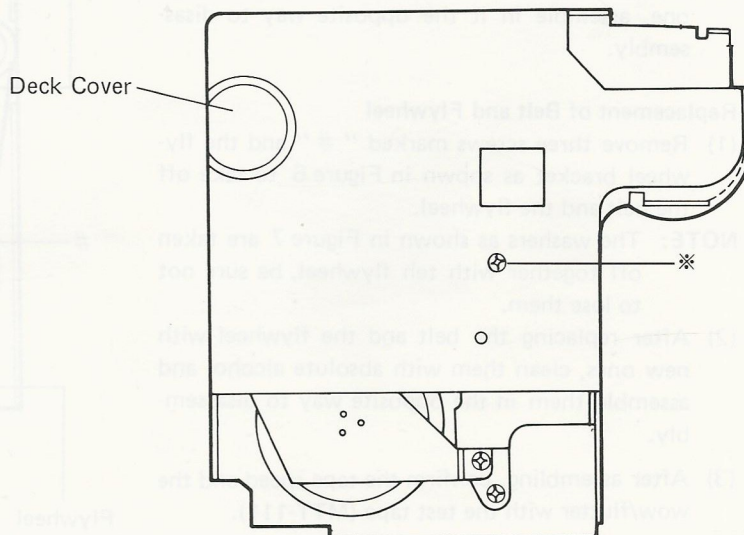

Figure 2
- (1) Remove one screw marked "※" as shown in Figure 2.
4. Replacement of Pinch Roller Assembly (L)